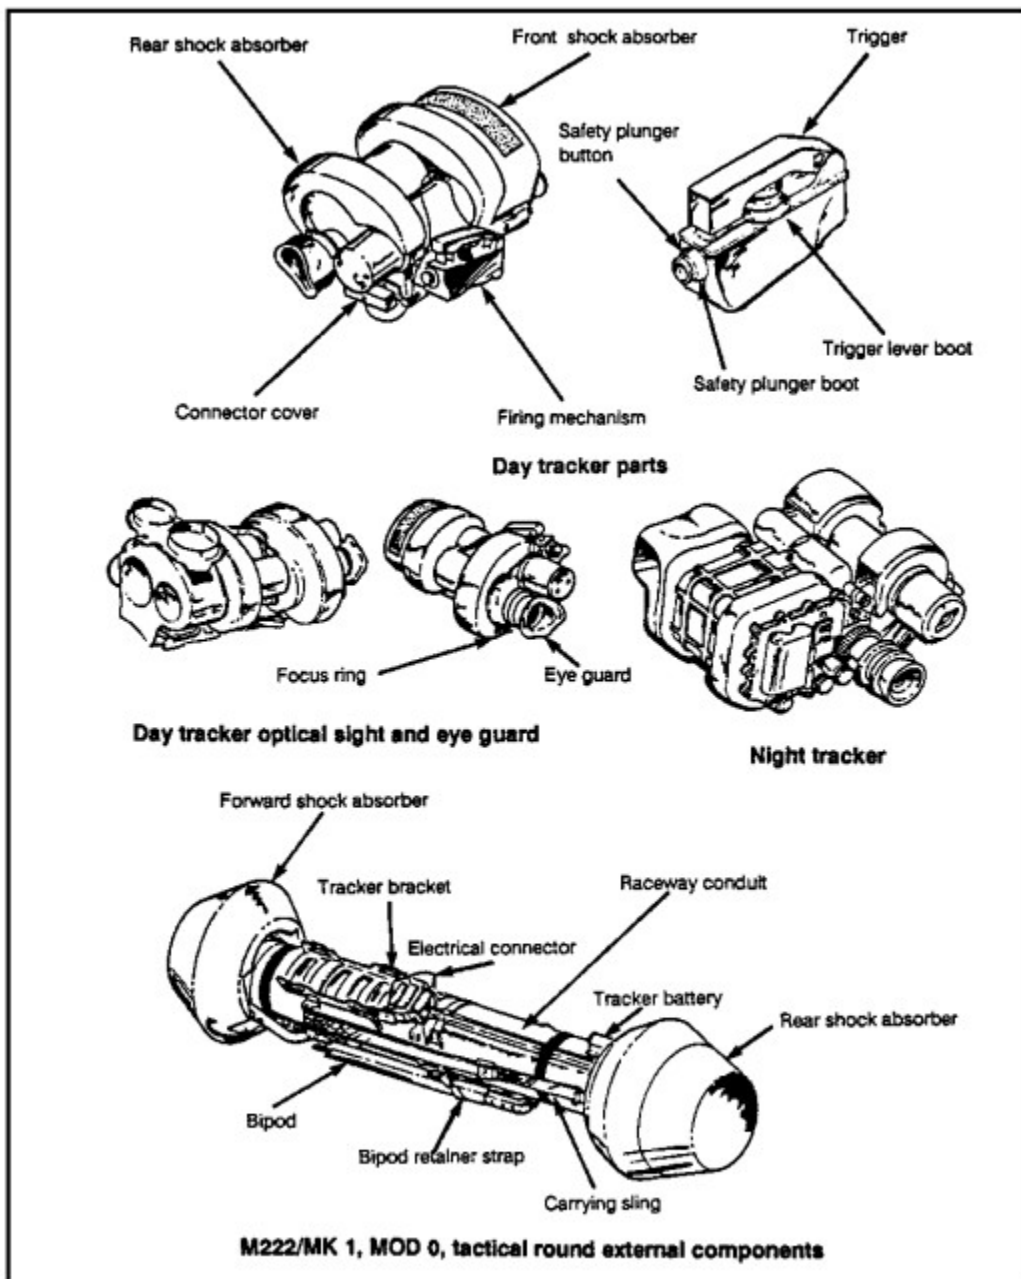

Figure 1-10. Dragon Components.
b. Components. The Dragon consists of the components shown in Figure 1-10. These components are as follows: